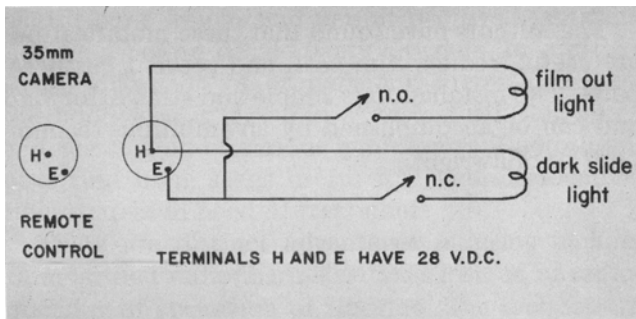
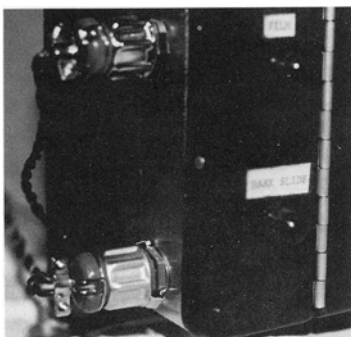

FIG. 3. Dark-slide and "film-out" schematic diagram.
FIG. 4. Connectors and indicator lights installed on camera back.
The modifications of the camera back required to install the dark slide indicator light and switch and "film-out" indicator light and switch can be accomplished with a drill press, bits, and tap-and-die set. Parts required are shown in Table 2. The schematic diagram is shown in Fig. 3. The modified Polaroid camera back with some of its components is shown in Fig. 4. This modification will require that six holes be drilled in the battery compartment of the back. Two holes should be drilled into the aluminum end-plates to accommodate the Amphenol connectors, and two in the battery case cover for the mounting of the indicator lights. Be sure when positioning the indicator lights that they do not interfere with the connectors when the cover is closed. Two small holes should be drilled leading from the battery holder to the film compartment. These holes are shown in Fig. 5, Site A and B. The 35-mm camera remote-control terminal is located on the underside of the CRT housing of the "A" chassis. Pins H and E of this connector carry 28 volts d-c and ground. This voltage is sufficient to activate the "film-out" and dark-slide indicator lights. Modifications are needed to install the contact switch in the film compartment. Figure 6 shows the modification of the internal pressure plate, the solder contact (A), and the solder lug (B). Figure 7 shows the electrical spring contact mounted on the case. When the Polaroid back is closed and there is no film in the camera back, the cover contact and the electrical spring contact mounted to the case will touch and close the circuit causing the film light to go on, thus warning the operator that he is out of film. When there is film in the camera back, the Polaroid film tab serves as an insulator between the cover contact